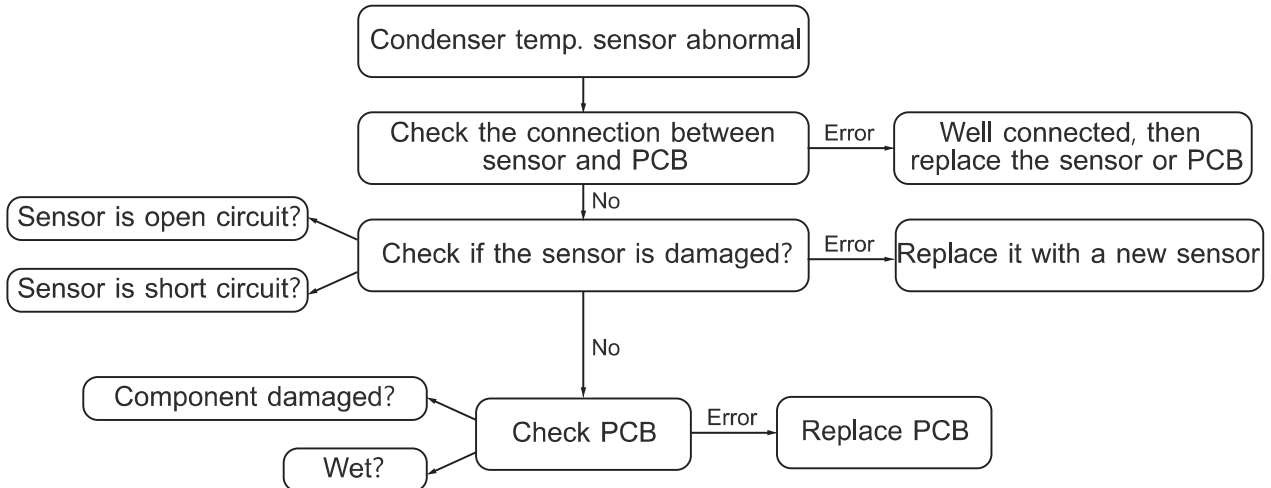

Figure 16.3 T3 Condenser Temperature sensor error
- T3- Outdoor unit coil temperature(Figure 16.3)